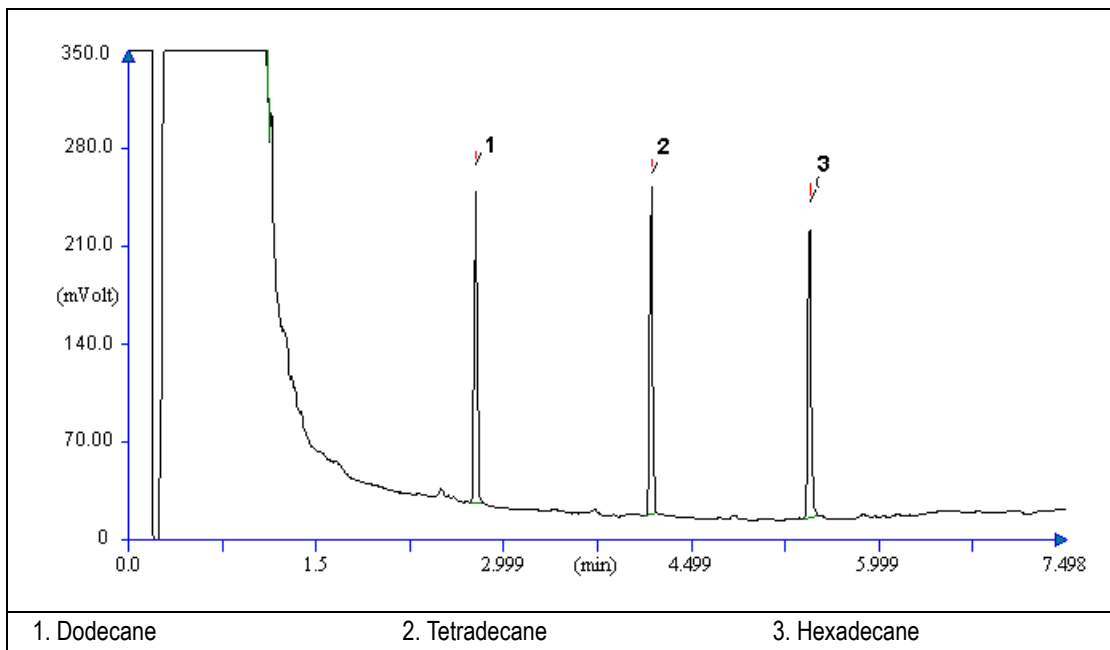

Figure 28-1. PDD-Splitless Injection
11. Inject the test mixture and press **START** on the GC to begin the checkout run. The resulting chromatogram should look like the one shown in *Figure 28.1*.